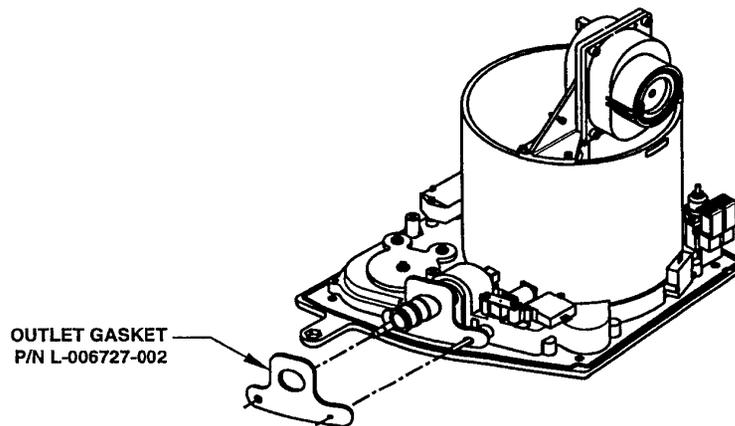

FIGURE 4-31.
2. Install the Outlet Gasket over the Patient Air Port, the Proximal Tube, and the Exhalation Tube. See Figure 4-31.